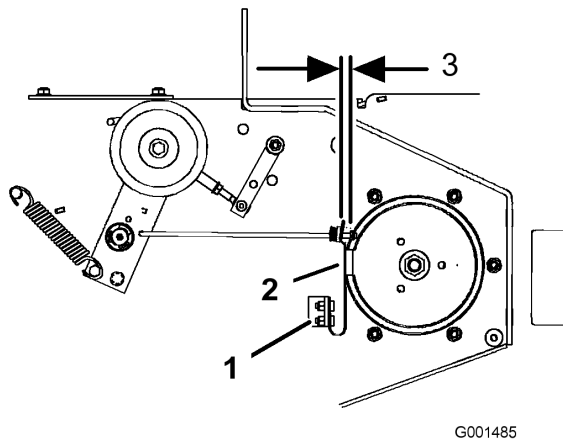

Figure 43
3. If necessary, adjust the spring mounting bolts so that the blade brake pad rubs against both sides of the pulley groove (Figure 43).
4. Adjust the nut at the end of the blade brake rod until there is 1/8-3/16 inch (3 mm -5 mm) between the nut and spacer (Figure 43).